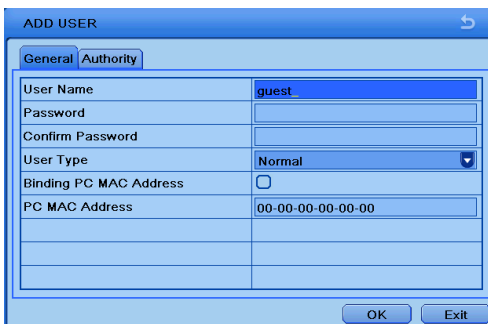

Fig 4-32 Add-General
- ② Click “Add” button to display a dialog box as Fig 4-32.